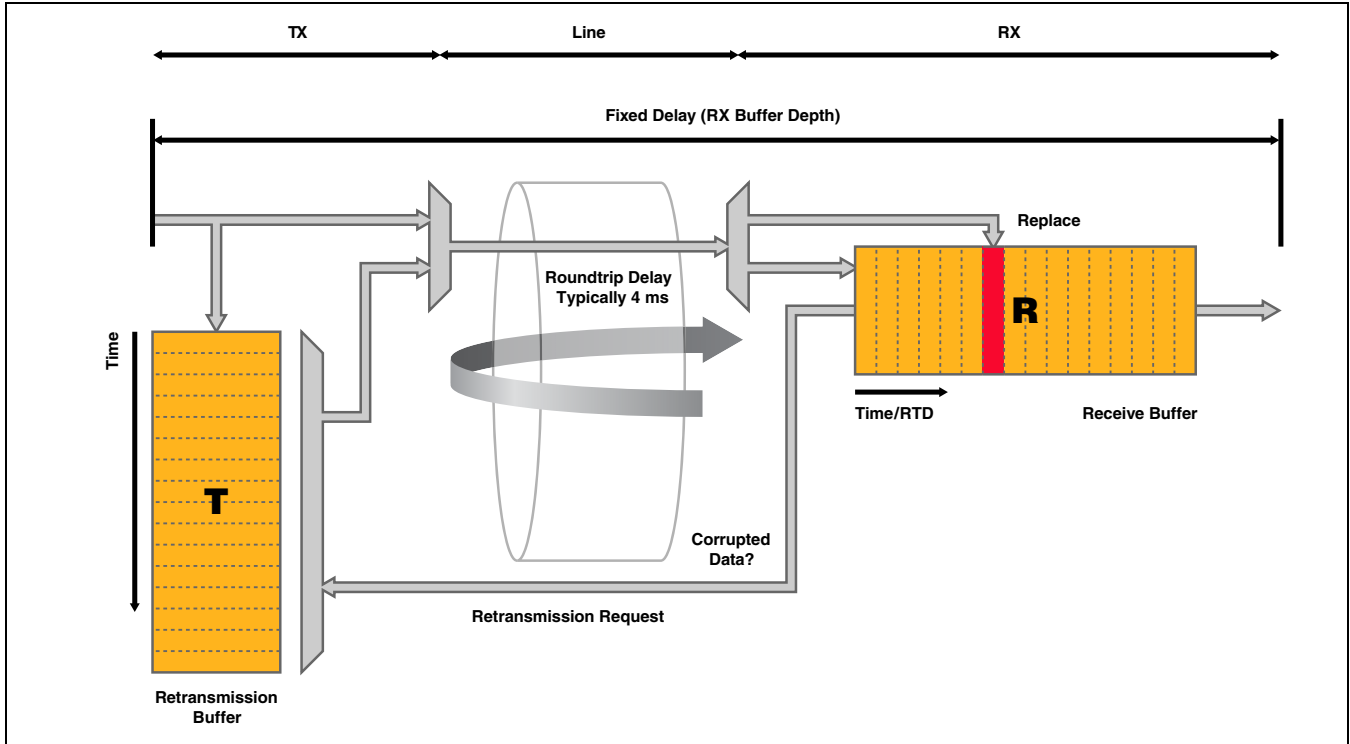

Figure 4: Physical Layer Retransmission Principle
As illustrated in Figure 4 on page 7, a retransmission buffer (T) stores the transmitted data, packed in a retransmit unit. When a data unit is received, its Frame Check Sequence (FCS) is checked, and a first retransmission request is immediately launched if it is found to be corrupted. Even if corrupted, the data units are pushed into the receive buffer (R). If the retransmitted data unit arrives while the corrupted one is still present in the receive buffer, the corrupted data is replaced. If the retransmitted data unit does not arrive on time, the corrupted data will be further processed by the receiver data path.